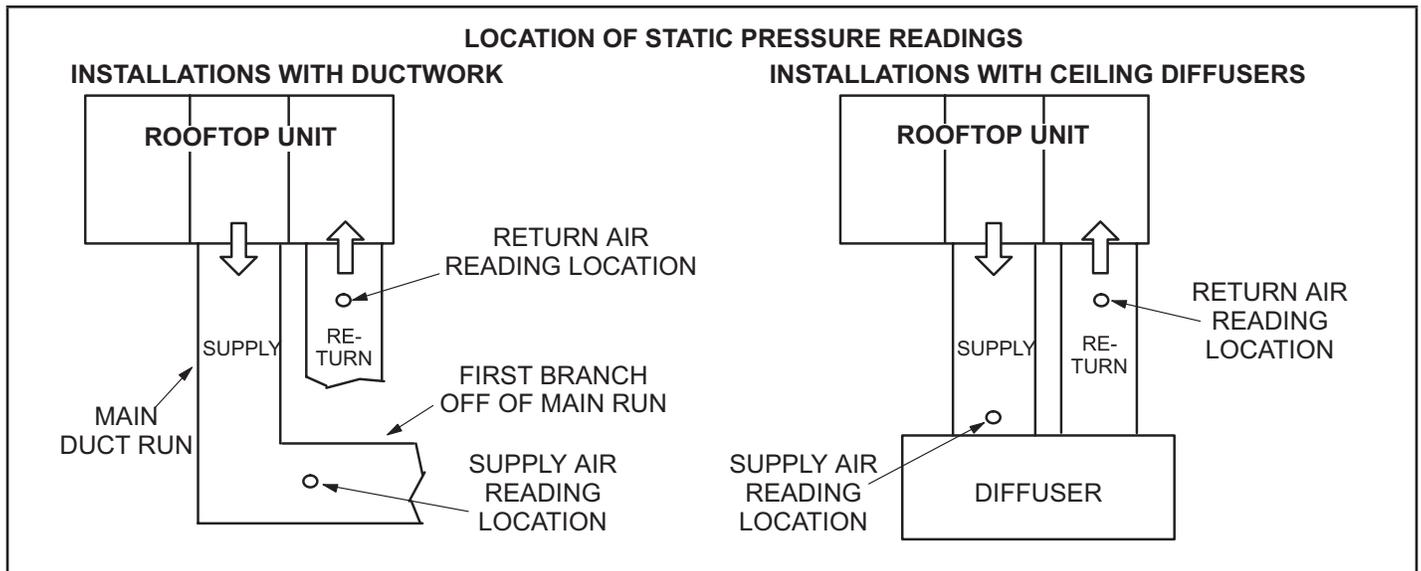

FIGURE 8
- 2 - With all access panels in place, measure static pressure external to unit (from supply to return). Blower performance data is based on static pressure readings taken in locations shown in FIGURE 8.